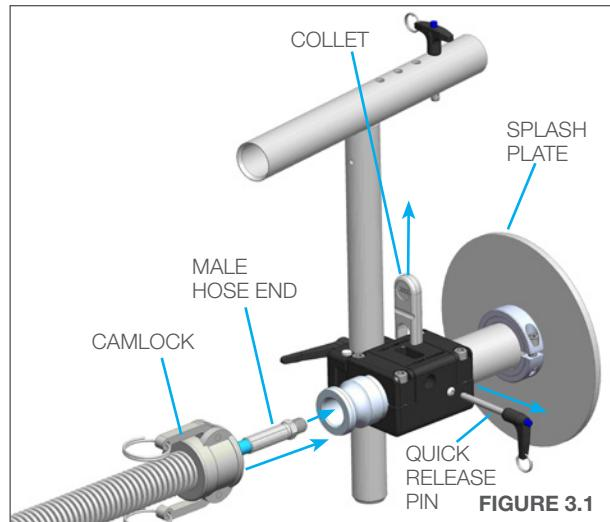
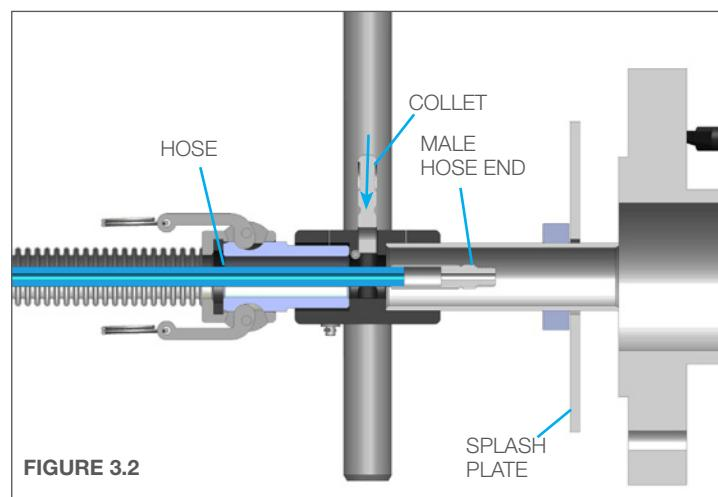

FIGURE 3.1
FIGURE 3.2
3. Connect the female hose end to the hose connection tube and wind the hose in the direction of the arrow inside the drum. (**Figure 3**) Using the Eccentric Lever move the Indicator Pin to “**Disengaged**” then feed the male hose end into the elbow and through the ProDrive 150. (**Figure 3.1**) Using the Eccentric Lever move the Indicator Pin back to “**Engaged**” (**Figure 3.2**)
3. Install the Drive Side Tube onto the Male Positioner Arm (**Figure 3**) and push the Quick Release Pin through one of the incremental hole settings. Pull Camlock, Snout, and Hose with Male End toward the Plug End. Pull the Quick Release Pin and remove the Collet. Push the Male Hose End through Plug End and 1.75" Tube. Replace the Collet and Quick Release Pin. Pull back on the hose to ensure the Male Hose End does not back out past the Collet. (**Figure 3.2**)